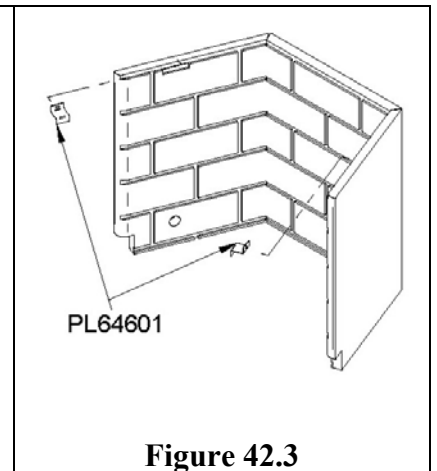

Figure 42.3
3. Unscrew the refractory panel retainers (2x: 1 left and 1 right) (PL64601). Figure 42.3